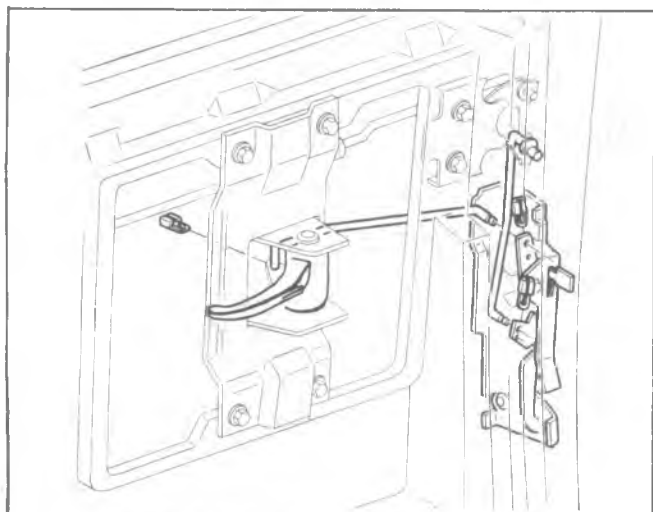

Fig. 2D-47--Lock Assembly and Inside Handle
Inside Handle--Fig. 2D-47
2. Disconnect control rod from inside handle by removing clip as shown in figure 2D-47.